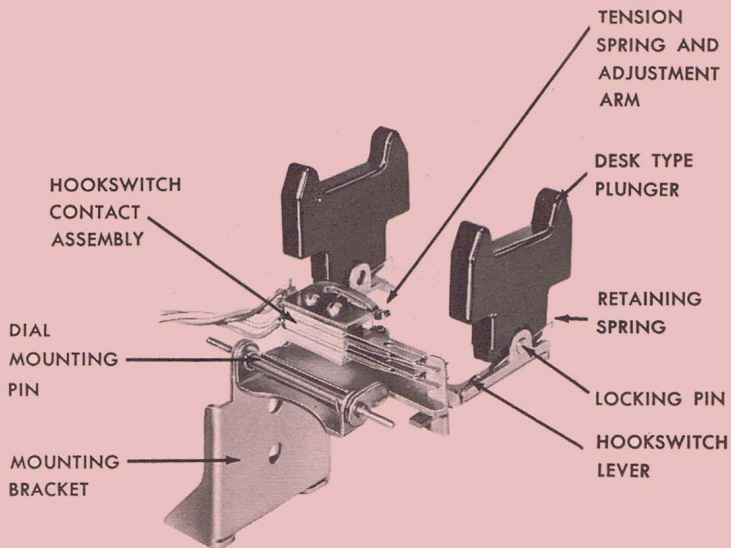

Figure 5. Hookswitch Assembly.
(3) *Hookswitch assembly* (fig. 5). The hookswitch assembly in the 1543 or any of the 1500 Series Telephone operates without any complicated linkage and is completely independent of the housing. A metal bracket fastened to the baseplate with four screws provides a mounting for the hookswitch assembly. A transparent cover protects the hookswitch contacts from dust or other foreign matter. A coil spring attached to the hookswitch lever assures proper operation of the hookswitch contacts.